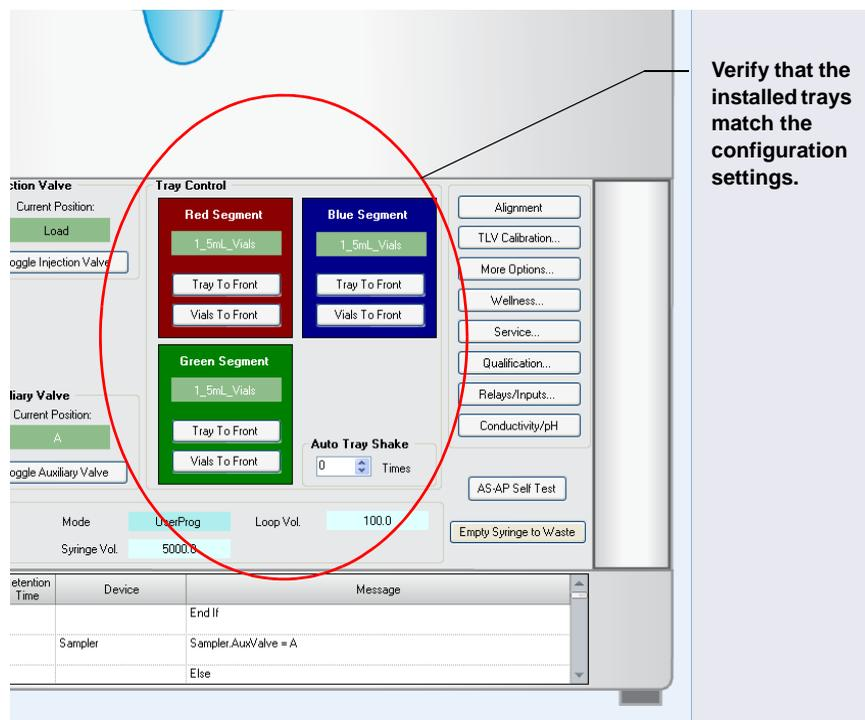

Figure 3-6. Tray Type Configuration Shown on a Chromeleon 7 ePanel
7. On the Dionex AS-AP ePanel (in Chromeleon 7) or Control panel (in Chromeleon 6.8), under **Tray Control**, verify that the tray type specified for each color section matches the tray type installed in the corresponding color section of the carousel (see Figure 3-6).